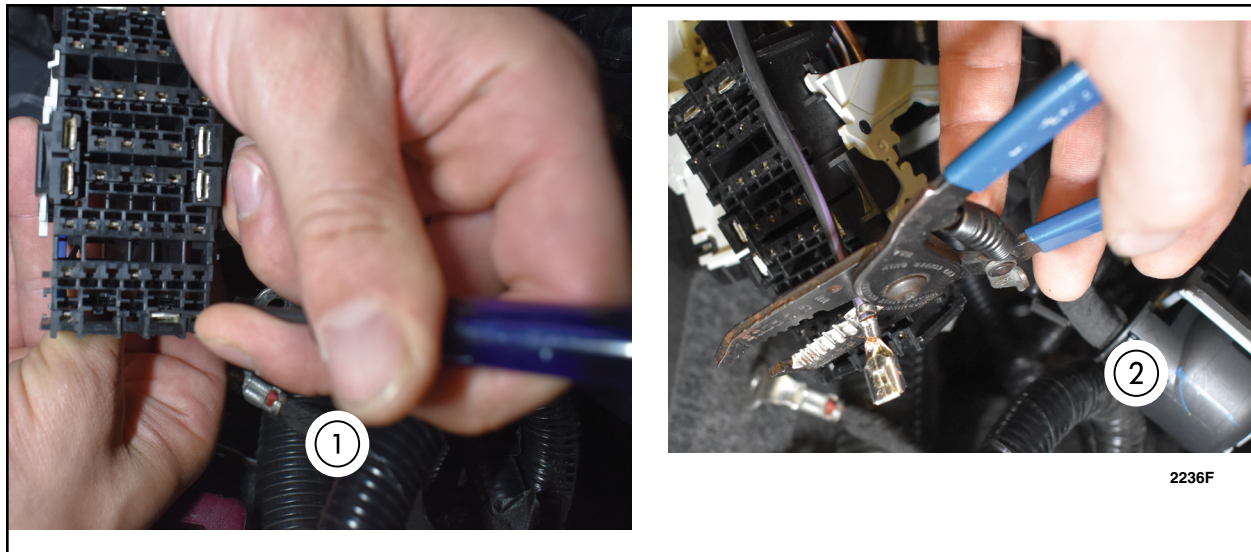

FIGURE 19
21. Remove the black-violet wire located in cavity 47 from the C1035B connector using a terminal tool. Cut terminal end off of wire. See Figure 19.